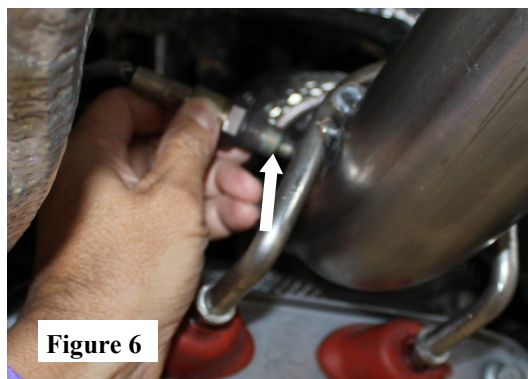

Figure 6
2. Install O2 sensors to Downpipe Assembly. (See Fig. 6)